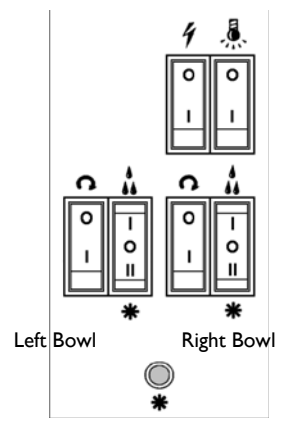

Figure 1
3. To access switches and timer, open the switch panel cover by pushing on the side (arrow A) and pulling (arrow A') (Fig. 1). To close the cover (arrow B'), push on the front (arrow B) until the clear plastic part (1) snaps closed (fig. 3)
4. To operate, press main power switch and agitator switch to **ON** position (figure 1). **NOTE:** The agitator switch must be to **ON** position before setting to liquid or slush mode.